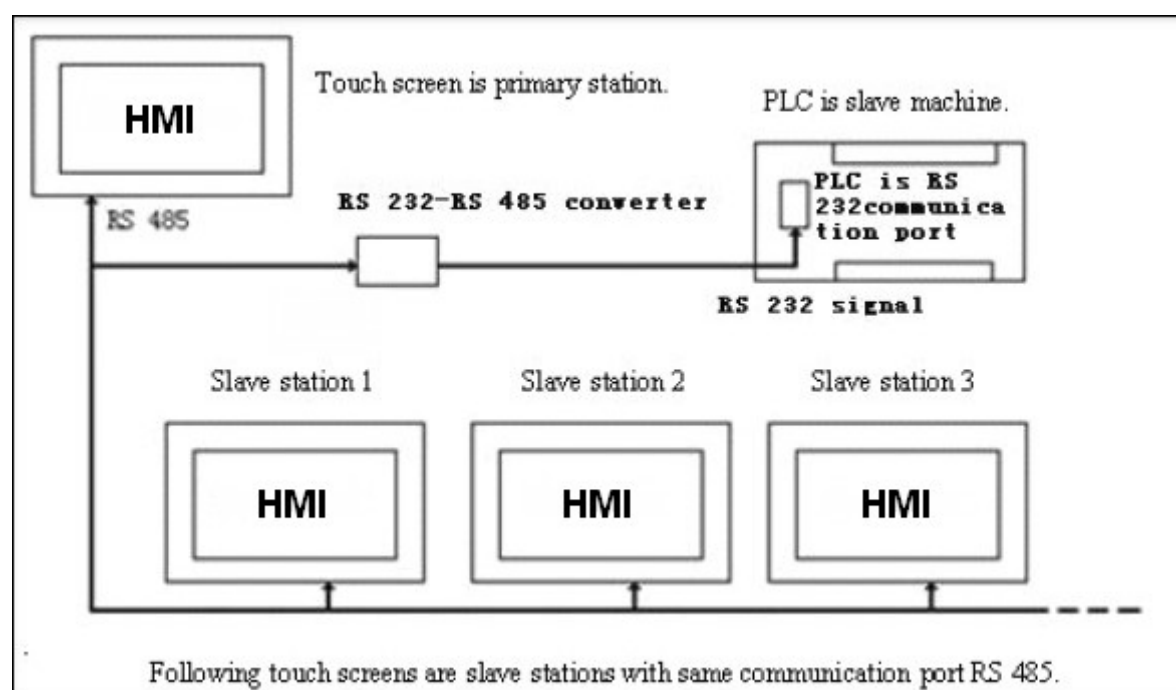

Figure 8-5 Sketch map of “One machine with multiple machines” when PLC (RS232) is Slave station
1.The communication port of the PLC connected is RS232; connection methods and system settings are as shown in Figure 8-5, 8-6 and 8-7: